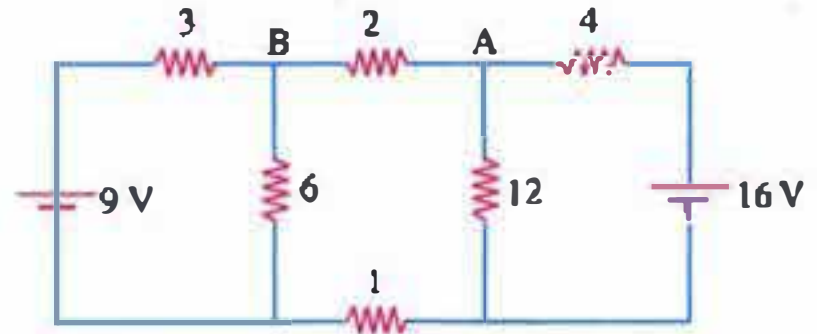

Fig. 4.27
4. In the circuit of Fig. 4.27, use Thevenin's theorem to find the magnitude and direction of flow of current through 2 Ω resistor. [0.75 A from A to B]